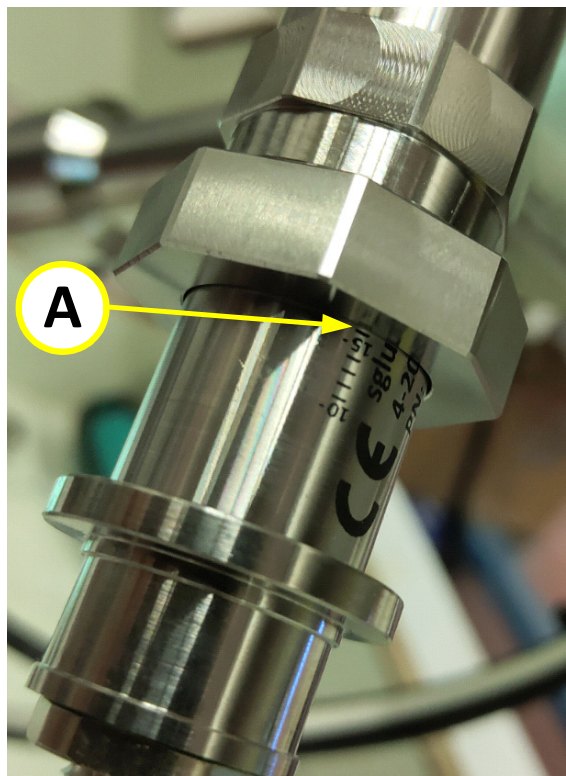

Figure 10-24: Using mm scale as position reference
- Step 1.** Before removing the UVIS sensor, look at the point where the millimeter scale on the sensor touches the securing nut (**A** in **Figure 10-24**).
- Step 8.** When you return the sensor to its place, make sure to insert it to the same reference point on the mm scale (**A** in **Figure 10-24**) recorded in **Step 1.** on page **10-94**.